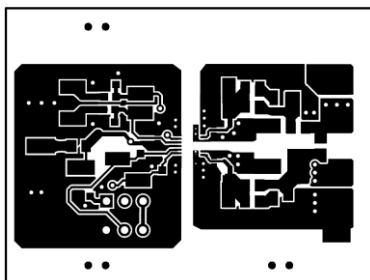
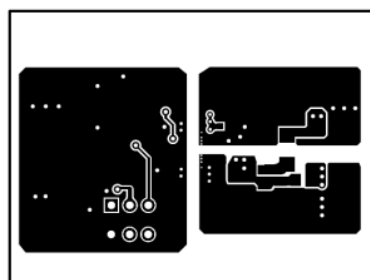

Figure 10-1. Top Layer Traces and Copper
Figure 10-2. Bottom Layer Traces and Copper
- Increasing the PCB copper connecting to VDDA, VDDB, VSSA and VSSB pins is recommended, with priority on maximizing the connection to VSSA and VSSB (see Figure 10-1 and Figure 10-2). However, high voltage PCB considerations mentioned above must be maintained.